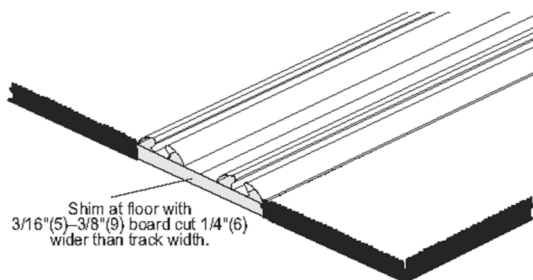

FIGURE 5
If carpeted, spacers [$3/16"$ (5) to $3/8"$ (9) thick] are recommended to raise floor track (Figure 5).